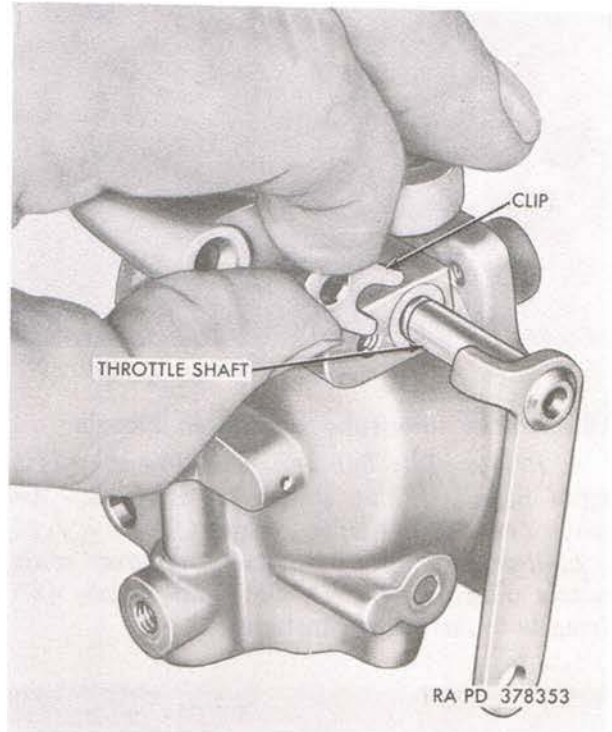

Figure 8. Removing throttle shaft clip.
b. *Remove Throttle Shaft and Lever.* Remove idle speed regulating screw (SS) and spring (RR) from end of throttle shaft and lever (QQ). Remove throttle stop pin (TT), lockwasher (UU), and throttle shaft clip (VV, and fig. 8) from body. Remove shaft and lever from body as shown in figure 8. Remove and discard shaft seal (PP).